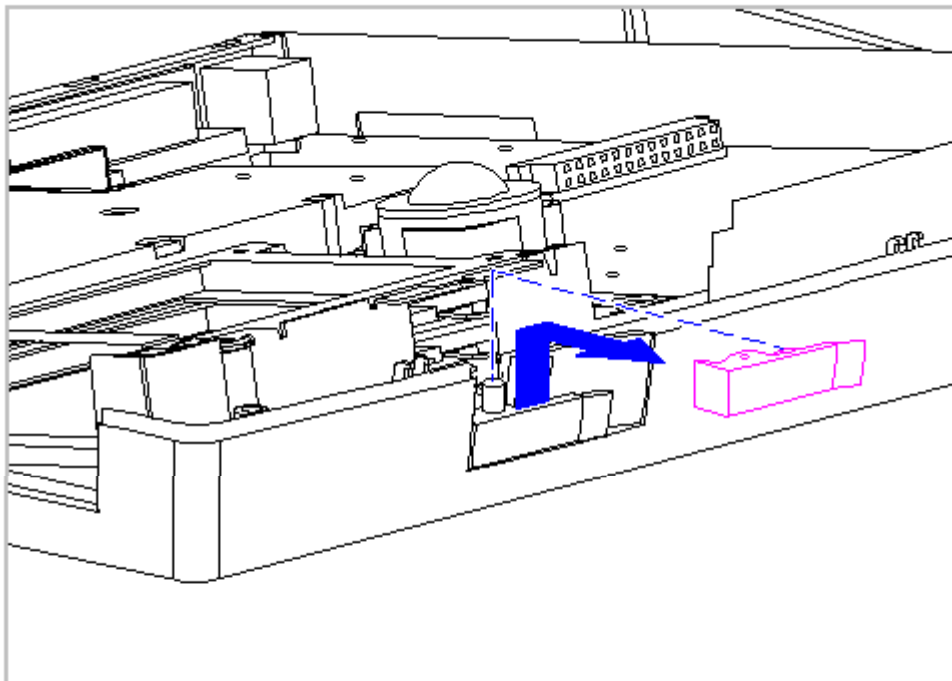

Figure 5-56. Removing the Top PC Card Ejection Lever
4. Remove the top PC Card ejection lever (Figure 5-56).